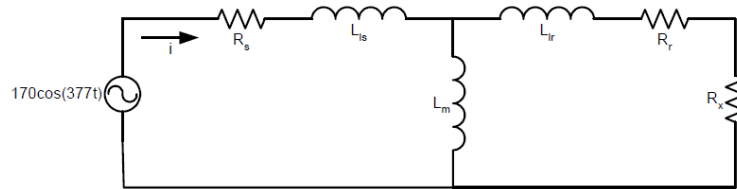

Figure 3.2 A Circuit model for one phase of an induction motor being driven by the utility
2. Figure 3.2 shows a circuit model for the utility supplying one phase of an ac induction motor. The motor system parameters are $R_s = 0.08 \Omega$, $L_{ls} = 1 \text{ mH}$, $L_m = 40 \text{ mH}$, $L_{lr} = 1 \text{ mH}$, $R_r = 0.1 \Omega$, and $R_x = 33 \Omega$. If the utility voltage is $170 \cos(377t)$, i) what is the current into the motor? and ii) At what power factor is the motor operating?